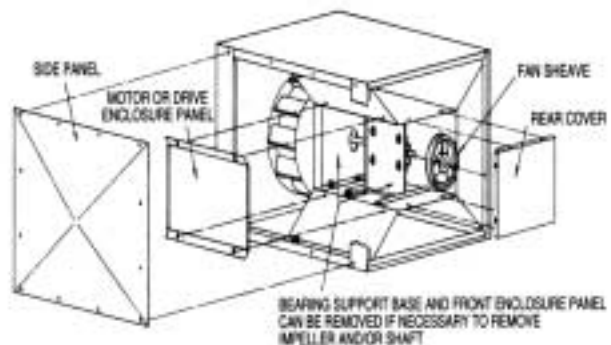

Figure 1
3. Impeller Adjustment: Turn centrifugal impeller by hand to make sure it rotates freely. If impeller hits orifice, remove side panel (both sides are removable) and motor or drive enclosure panel as in shown Figure1.
6. If it should become necessary to remove the impeller, first remove the motor and impeller or shaft, bearing and impeller assembly. (See Figure 1) On model sizes 120, 137 and 161 there is a sleeve which fits inside the impeller hub. To remove the impeller from the shaft, completely remove the two socket head cap screws that go through the sleeve. The impeller will then slide off the sleeve and the set screws attaching the sleeve can be loosened allowing its removal. The impellers on larger size units are attached with a roll pin. Remove the roll pin by driving it out with a drift pin.